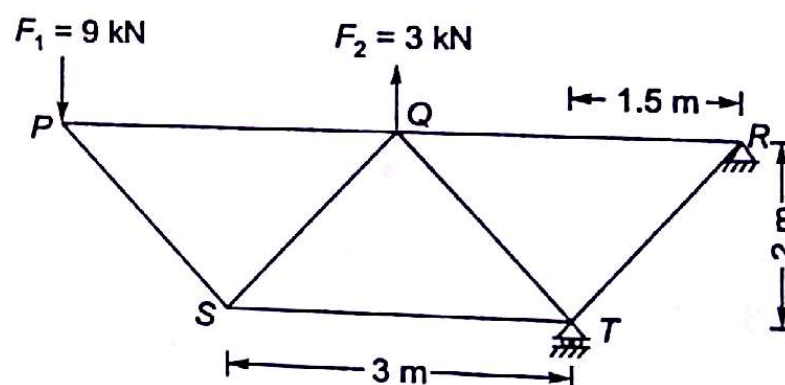

Fig. 4.57
- 4.28 For the truss shown in Fig. 4.57. The force F_1 and F_2 are 9 kN and 3 kN respectively. The force is (kN) in the member QS is (All dimensions in m)